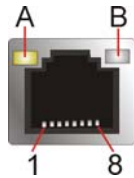

Figure 3-33: Ethernet Connector
- CN Pinouts:** See Figure 3-33 and Table 3-34